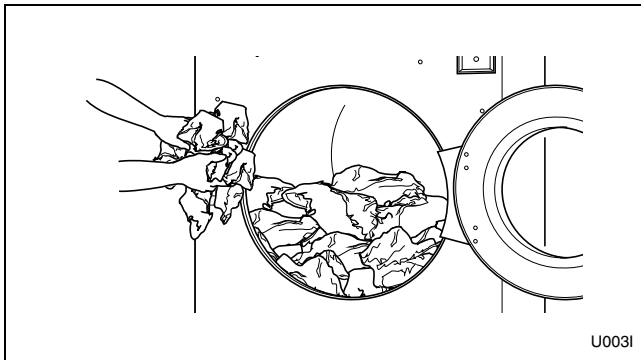

Figure 37
3. Load to capacity whenever possible. **DO NOT OVERLOAD.** Refer to *Figure 37*.